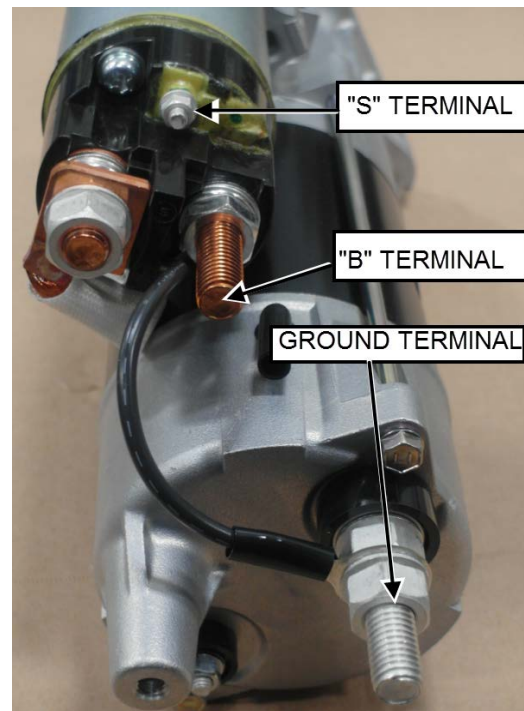
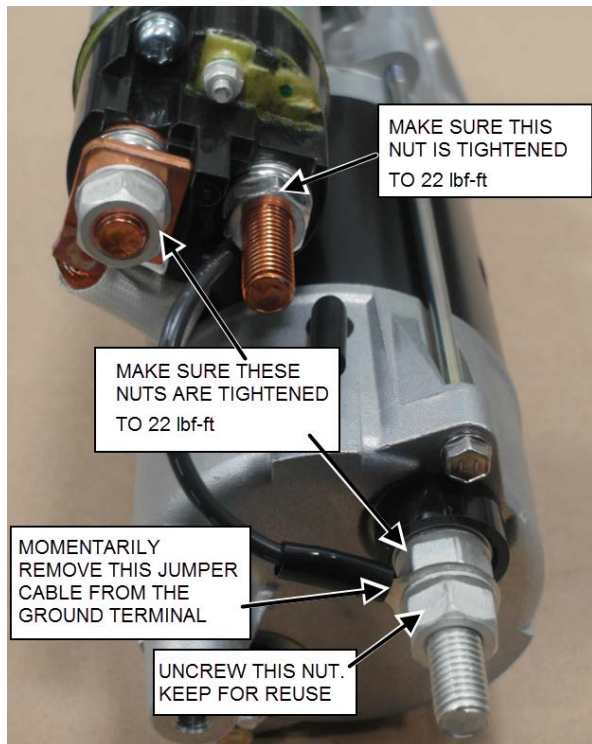

FIGURE 4 : TERMINAL IDENTIFICATION
FIGURE 5
1. If the starter is replaced with a brand new starter, prepare the new starter as follows (refer to FIGURE 5).
- a) Remove the second nut on the ground terminal (FIGURE 5). Keep for later use.
- b) Remove the jumper cable connected to the ground terminal (FIGURE 5).
- c) Make sure that the three nuts identified on FIGURE 5 are tightened to a torque of **22 lbf-ft**.
7. Connect circuit **101** to **B** terminal (FIGURE 4 & FIGURE 5). Position circuit **101** cable to be in line with the nylon tie mount on the starter.